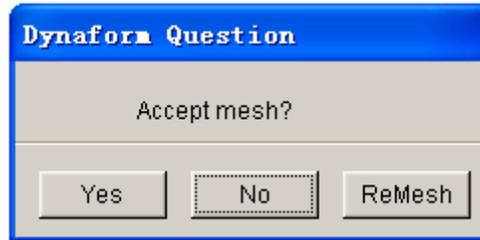

Figure 5.3.2 DYNIFORM Question dialog box
- Select a button in the eta/DYNAFORM Question dialog box as illustrated in Figure 5.3.2.